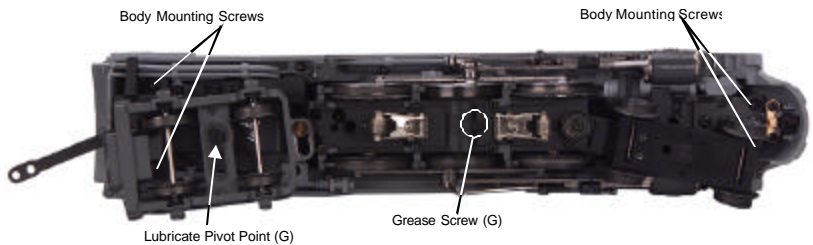

Figure 7. Location of Body Mount Screws and Greasing Points on the Locomotive
You should also grease the leading and trailing locomotive truck tongues to enhance their ability to slide on the chassis. Follow the grease points shown on Fig. 7.
1. Remove the boiler from its chassis as shown in Figure 7 on pg. 12.
1. Remove the boiler from the engine (see Fig. 7 on pg. 12). Remove the two front and two rear body mount screws and carefully lift the boiler from the chassis, being careful to leave the wires attached.